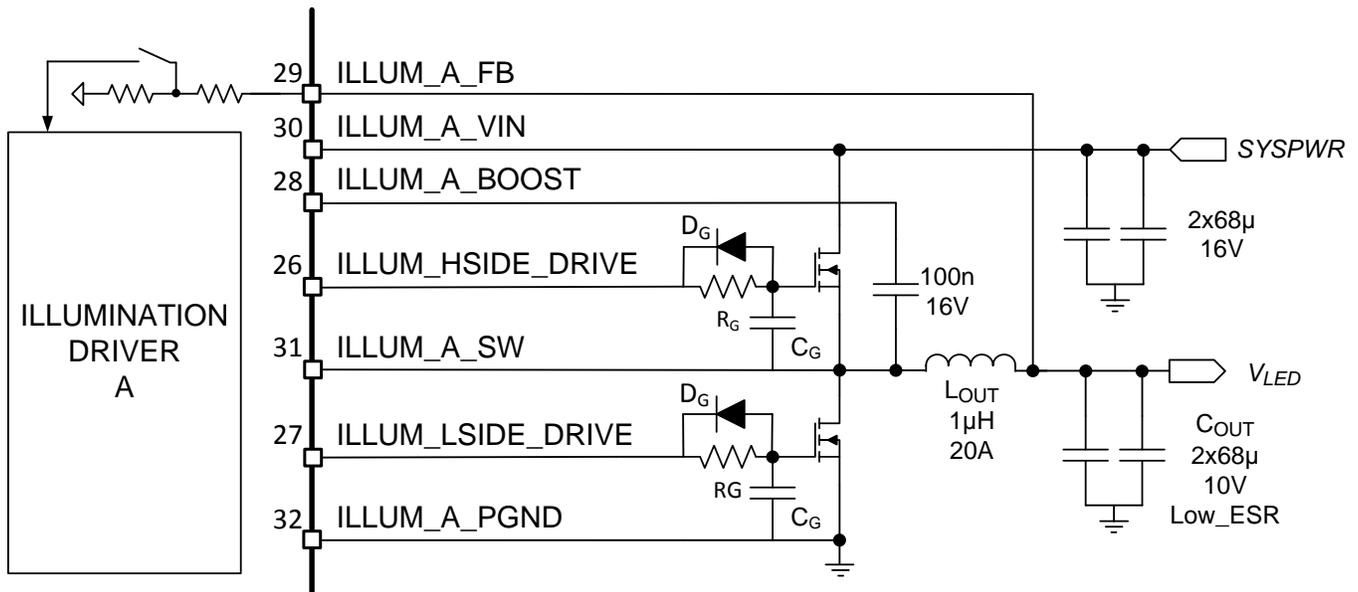

Figure 6. Typical Illumination Driver Configuration
The illumination driver of the DLPA3005 is a buck controller for driving two external low-ohmic N-channel FETs (Figure 6). The theory of operation of a buck converter is explained in the application note *Understanding Buck Power Stages in Switchmode Power Supplies (SLVA057)*. For proper operation, selection of the external components is very important, especially the inductor L_{OUT} and the output capacitor C_{OUT} . For best efficiency and ripple performance, an inductor and capacitor should be chosen with low equivalent series resistance (ESR).
Below (Figure 12) an overview is given of the efficiency of the illumination driver plus power FETs for an input voltage of 12 V. Used external components (Figure 6): High-side FET (L) CDS17506Q5A, Low-side FET (M) CDS17501Q5A, $L_{OUT} = 2 \times 2.2 \mu\text{H}$ parallel, $C_{OUT} = 88 \mu\text{F}$. The efficiency is shown for several output voltage levels (V_{LED}) versus output current.